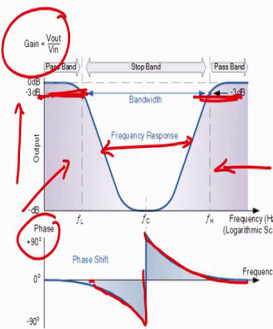

Figure 17
- A typical Band Reject Filter frequency response is shown in Figure 17 aside
This is because a frequency response shows a deep notch with high selectivity. We have already seen the graph. A typical Band Reject Filter, A typical Band Reject Filter frequency response is shown in figure 17. So, let us see what is that? gain is V_{out} by V_{in} you always see here we have we are considering minus 3 dB right minus 3 dB this is your Pass Band, this is your Pass Band and this is your Stop Band this is your Stop Band correct.